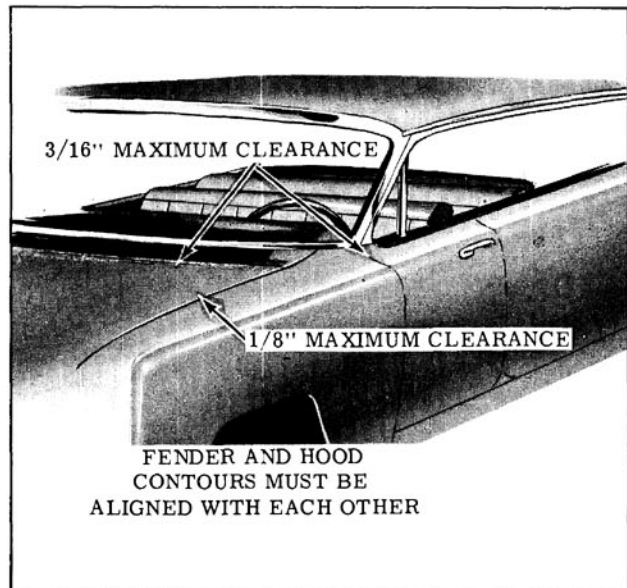

Fig. 15-9 Sheet Metal Clearances
2. Shift hood until clearances shown in Fig. 15-9 are obtained.
After aligning the hood hinges, the hood pilot bolts and rubber bumpers, located on the fender tie bar, should be adjusted. The pilot bolts position the hood as it is lowered. Vertical adjustment can be made by loosening the pilot bolt lock nuts and adjusting the threaded pilot bolts up or down for proper engagement with the latch assemblies. Lateral and fore and aft adjustment can be made by loosening the locknuts on the pilot bolts and moving the pilots right or left, or fore or aft. Front hood to fender clearances are 1/8" maximum. (Fig. 15-9)